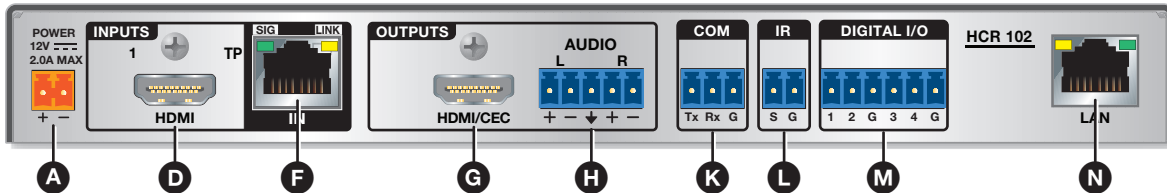

Figure 4. HCT 103 Rear Panel (Top) and HCR 102 Rear Panel (Bottom)
4. Write down the MAC address of each HCR 102 (see figure 4,  on the previous page) or other IP Link Pro device to be used.